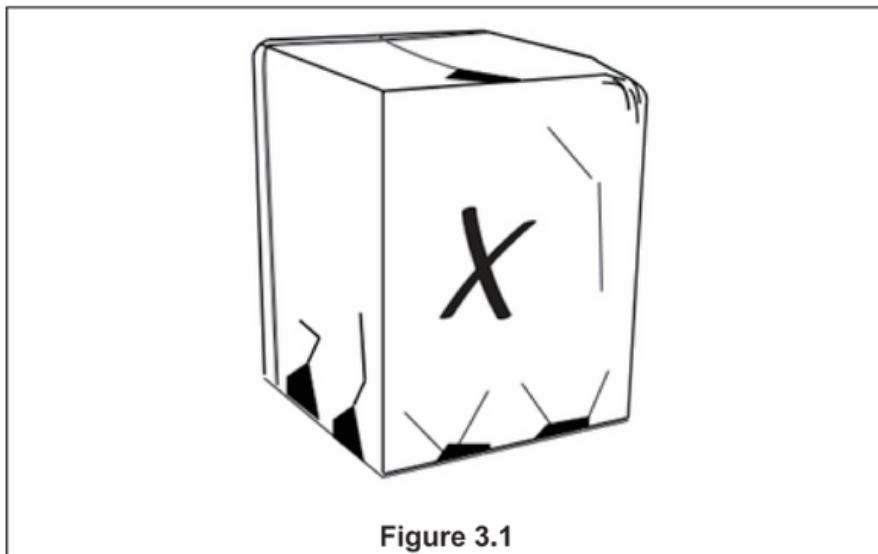

Figure 3.1
- Check whether there is any damage and report any damage to the unit to the carrier in time (Figure 3.1).